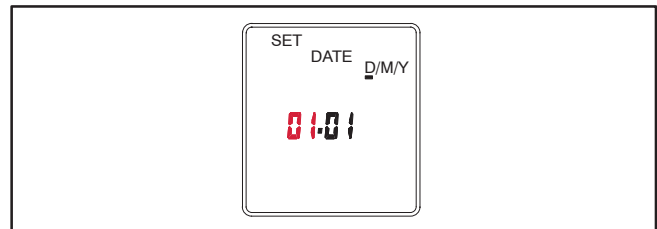

FIGURE 7. SETTING THE DAY AND MONTH
- 3.. Press the + or – buttons until the correct year is displayed. Press the **OK** button. The day and month will then be displayed with the day flashing and D/M/Y is displayed with the "D" underlined (see Figure 7).